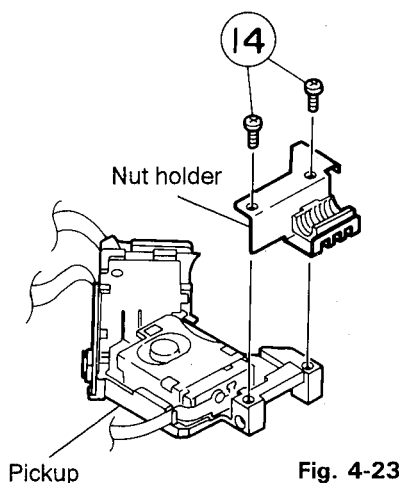

Fig. 4-23
2. Remove the PU shaft (A) while pulling it in the arrow direction (See Fig. 4-23).
3. By removing two screws (14) retaining the nut holder, dismount the nut holder (See Fig. 4-23).
2. Attach the nut holder to the pickup (See Fig. 4-23).